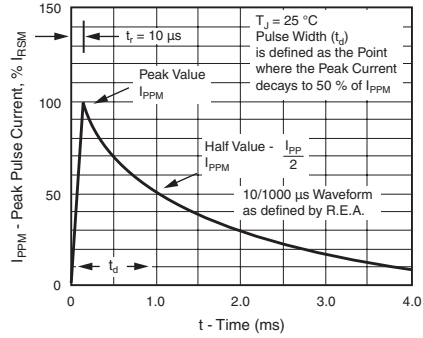
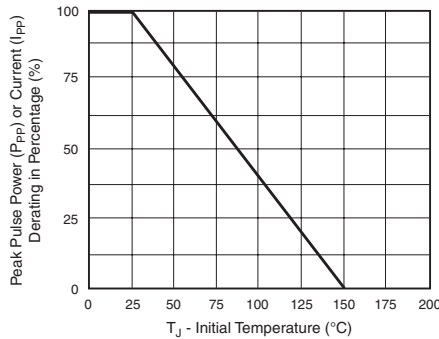

Figure 3. Pulse Waveform
Figure 2. Pulse Derating Curve
(2) Surge current waveform per Fig. 3 and derate per Fig. 2
(3) All terms and symbols are consistent with ANSI/IEEE C62.35